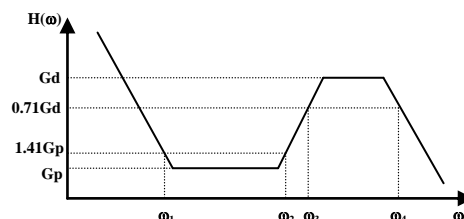

Figure 14. Transfer Function of the Compensation Network
The transfer function of the compensation network, defined as $H(\omega) = IDR(\omega)/TMS(\omega)$, is shown in Figure 14.
- d. $C_D \times R_I$ determines the corner frequency, $\omega_2 = 1/(C_D \times R_I)$, where the differential component starts picking up (see Figure 14), as the frequency goes up.
h. The evaluation schematic is given in Figure 14.